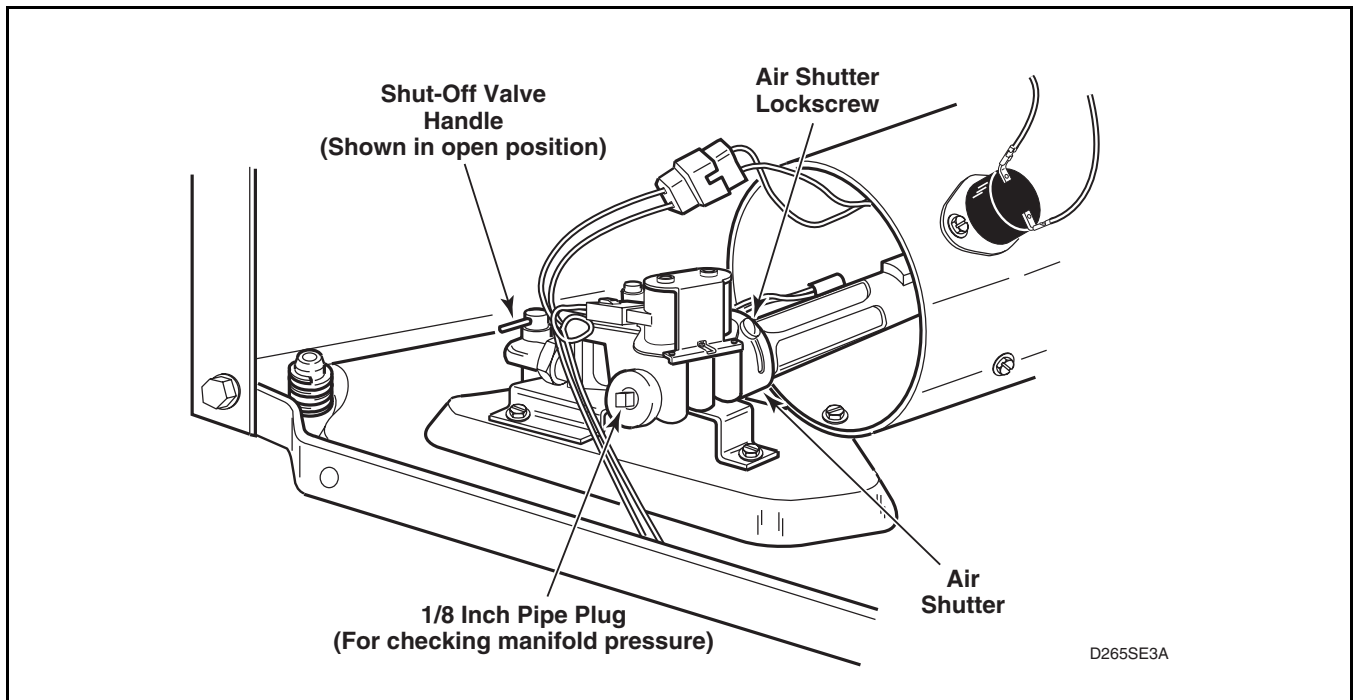

Figure 63
- e. Allow the dryer to operate for approximately five minutes, then loosen the air shutter lockscrew. Refer to *Figure 63*.
- g. After proper flame is obtained, tighten air shutter lockscrew firmly. Refer to *Figure 63*.